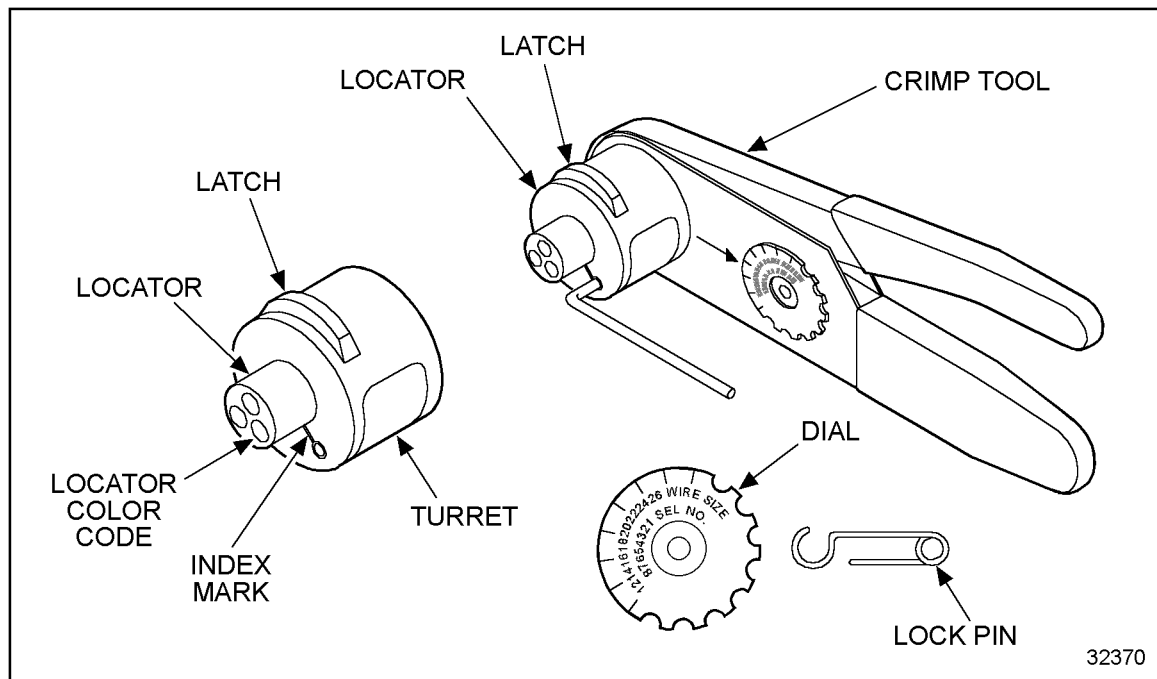

Figure 8-23 Hand Crimp Tool for 37-pin Connector Terminals
3. Push the latch on the turret to pop up the locator. Attach the turret (ITT P/N: 995-0002-052) to the crimp tool using the two captive hex bolts in the turret. See Figure 8-23.
5. Adjust the dial for proper wire gauge with the lock pin. Remove the lockpin and lift the center of the dial. Turn to the desired wire gauge and replace the lock pin on the dial. See Figure 8-23.